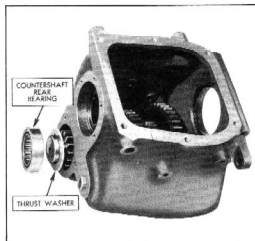

Fig. 21—Method of Assembling Countershaft
1. Assemble the countergear front bearing and retainer to the case. The open side of the retainer should be toward the outside and its edge flush with the case. Place the countergear and shaft in the transmission and assemble the thrust washer and rear bearing as shown in Fig. 21.